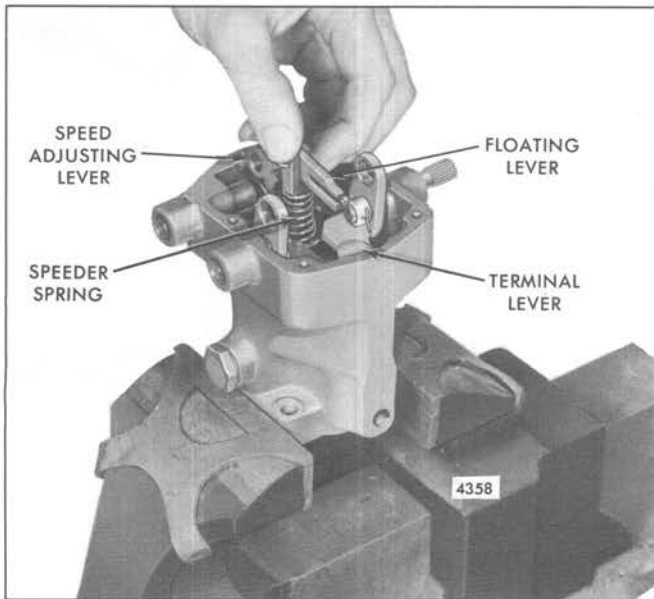

Fig. 10 – Removing Speed Adjusting Lever, Spring Fork, Speeder Spring and Pilot Valve Plunger Assembly
12. Lift the speed adjusting lever, floating lever, spring fork, speeder spring and pilot valve plunger as an assembly from the governor housing as shown in Fig. 10.
13. Remove the pilot valve plunger thrust bearing (18) and the roll (spring) pin (15) from the governor housing.